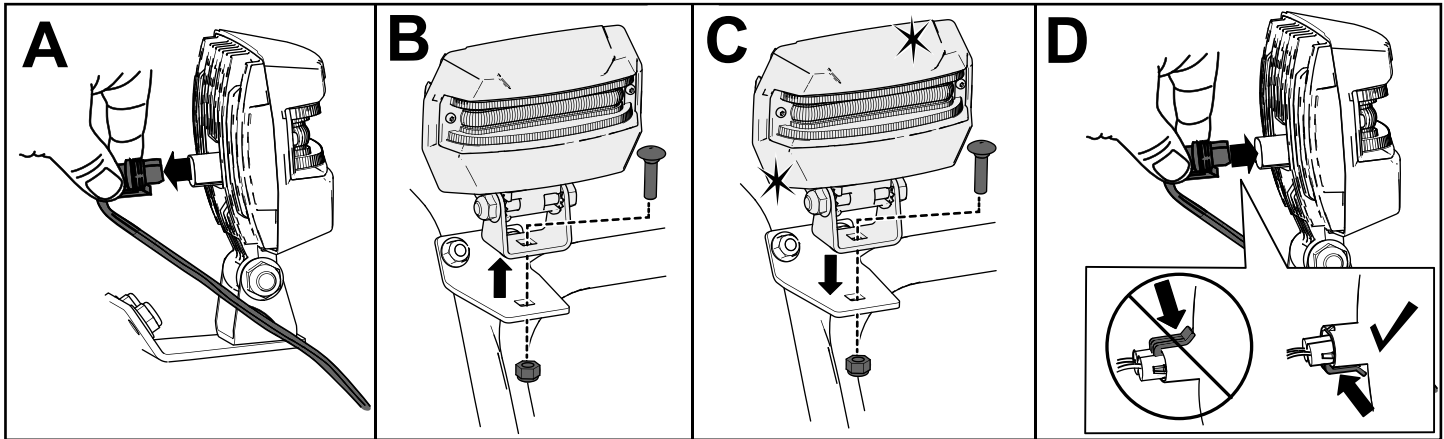

Figure 39
1. Remove the headlight wire from the back of the headlight (A of Figure 39).
2. Remove the bolt and nut holding the headlight assembly onto the headlight bracket and then remove the old headlight assembly (B of Figure 39).
3. Secure the new headlight assembly onto the headlight bracket with the previously removed nut and bolt (C of Figure 39).
4. Insert the headlight wire straight into the back of the headlight until it is securely in place (D of Figure 39).